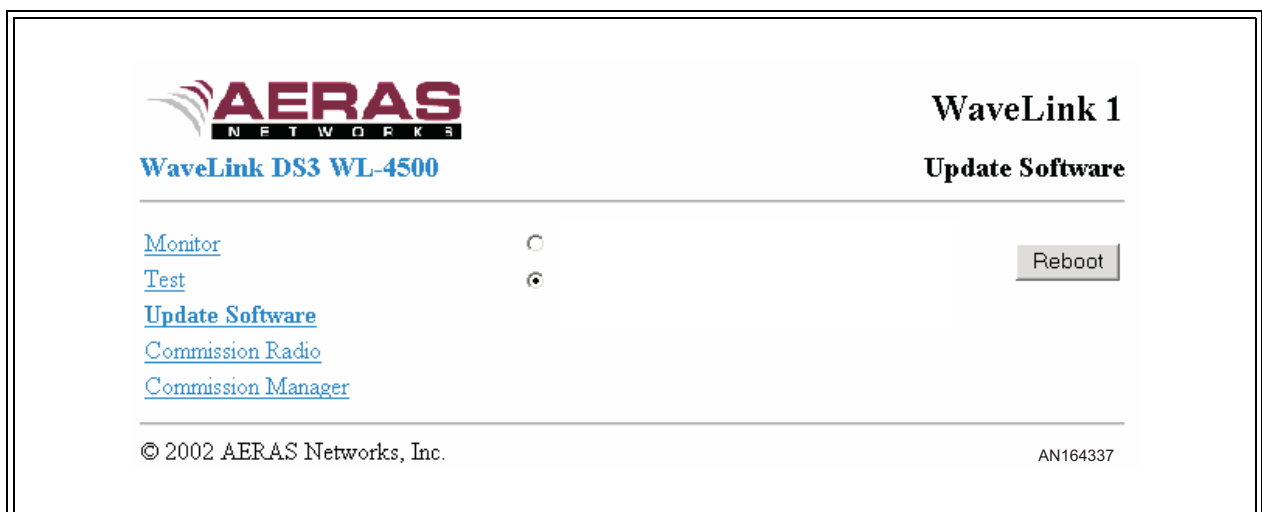

Figure 5-1 Typical DS-3 Update Software Web Page
- 3** Navigate to the **Update Software** web page. A sample **Update Software** page is shown in Figure 5-1.